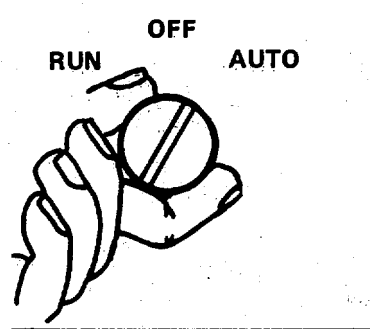

FIGURE 3-29. Idle Position.
- (2) Place the generator set control switch to the RUN position to start the generator set (FIGURE 3-29)-